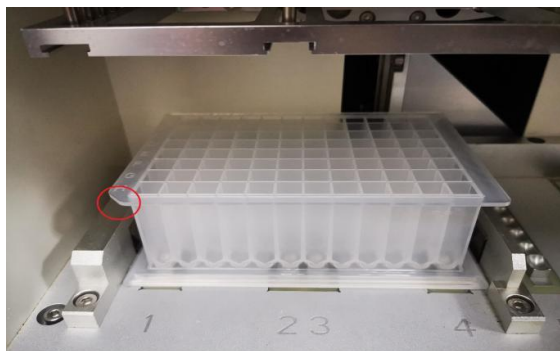
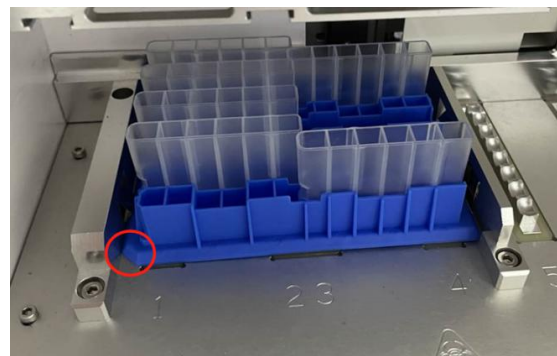

Figure 3. 96-deep well plate
Figure 4. Put the single kit docking into the instrument
**⚠ Note:** As shown in Figure 3 and Figure 4, ensure that the 96-deep well plate or the single kit docking is properly positioned, and the marked notch of the plate faces front.